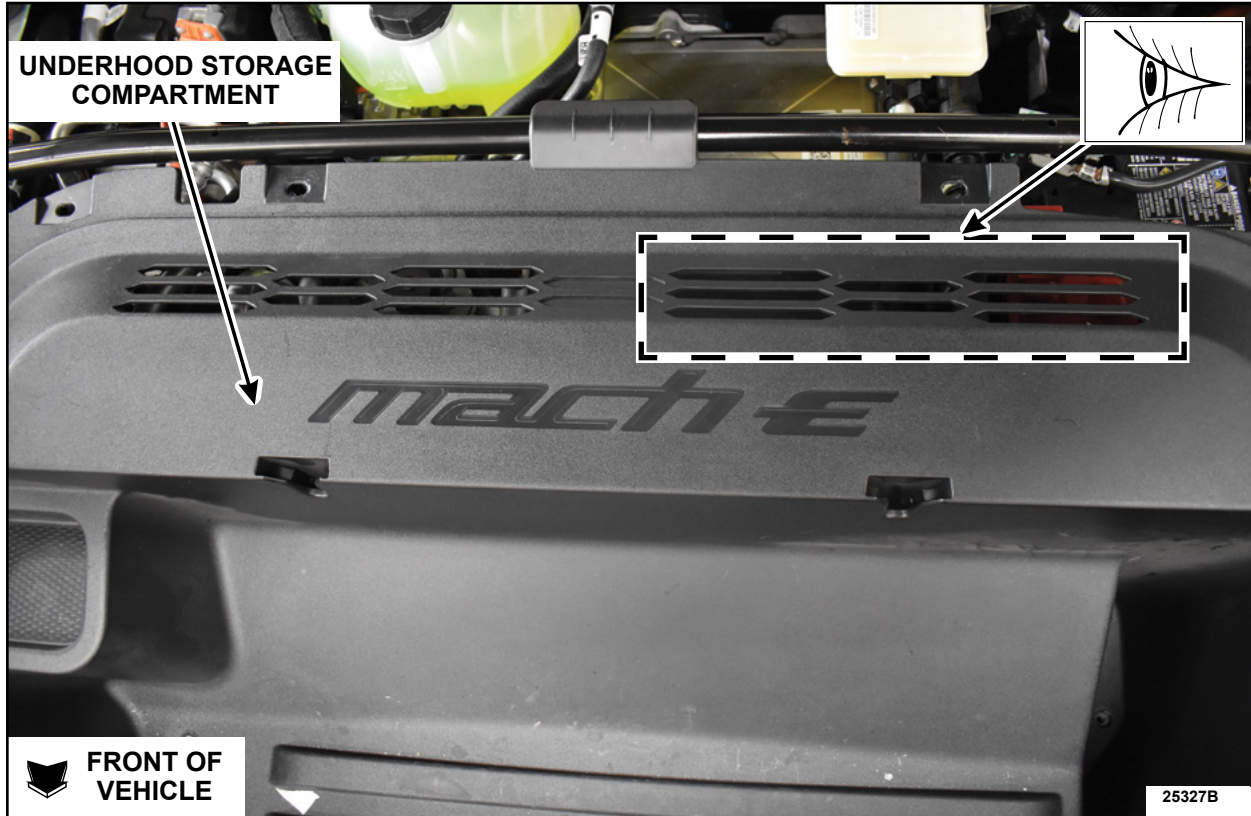

FIGURE 2
- Looking through the vents on the Left Hand (LH) side of the underhood storage compartment, locate and inspect the coolant hose and wiring harness in front of the Secondary On-Board Diagnostic Module B (SOBDMB). See Figures 2 and 3.